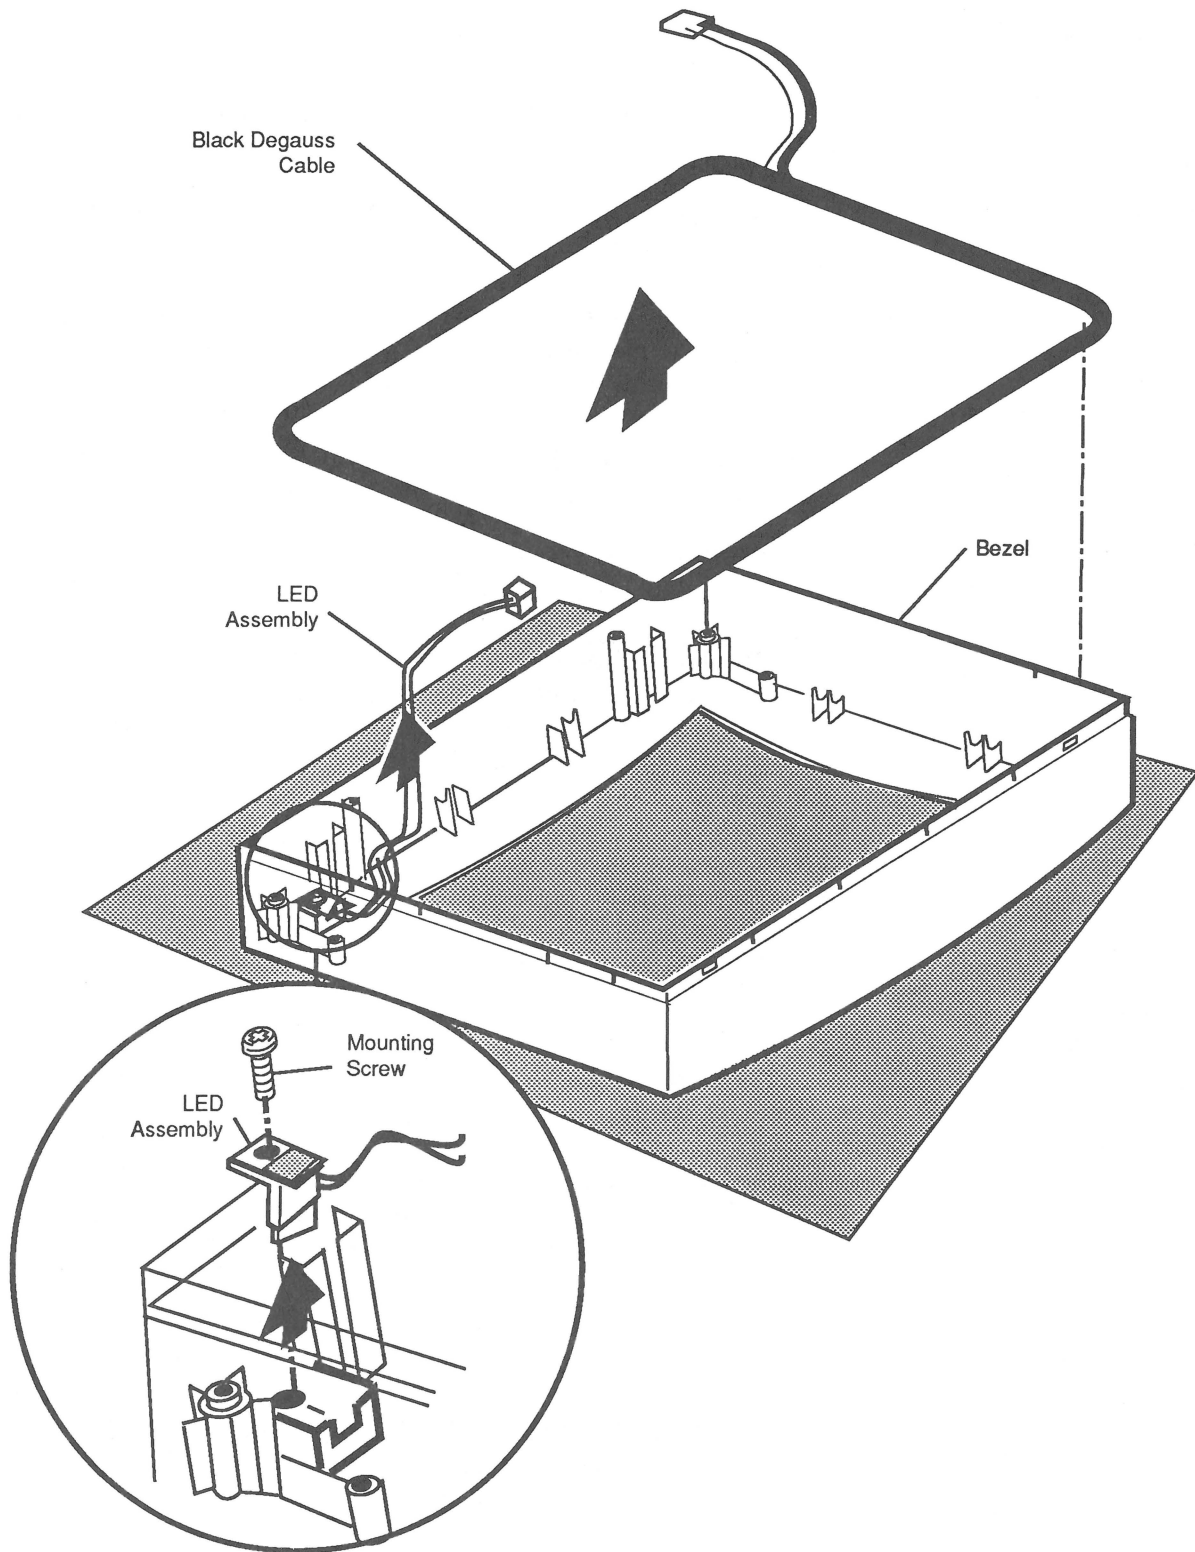

Figure 2-17 Replacing the LED Assembly
5. **Figure 2-17.** Remove the black DeGauss cable from the bezel. Connector **PC** is attached to the cable.
6. **Figure 2-17.** Remove the screw that secures the LED assembly to the bezel, and remove the LED assembly.
1. **Figure 2-17.** Insert the LED assembly in the bezel mounting bracket, and replace the LED mounting screw.
2. **Figure 2-17.** Replace the black DeGauss cable along the inside edge of the bezel. Make sure connector **PC** is positioned as shown in **Figure 2-17**, and the cable is pressed down into the notched standoffs.